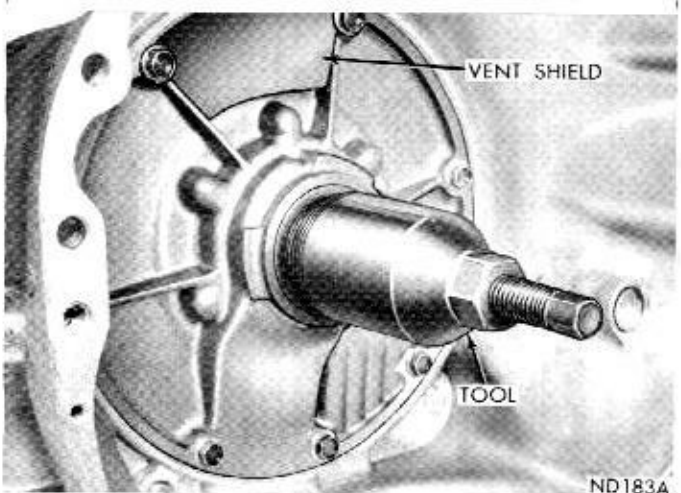

Fig. 28—Removing Pump Oil Seal
The pump oil seal can be replaced without removing pump and reaction shaft support assembly from the transmission case. **The vent shield shown in (Figs. 28 and 29) is not used or required on the A-904 pumps.**
(1) **A-904:** Screw seal remover Tool C-3981 into seal (Fig. 28), then tighten screw portion of tool to withdraw the seal.